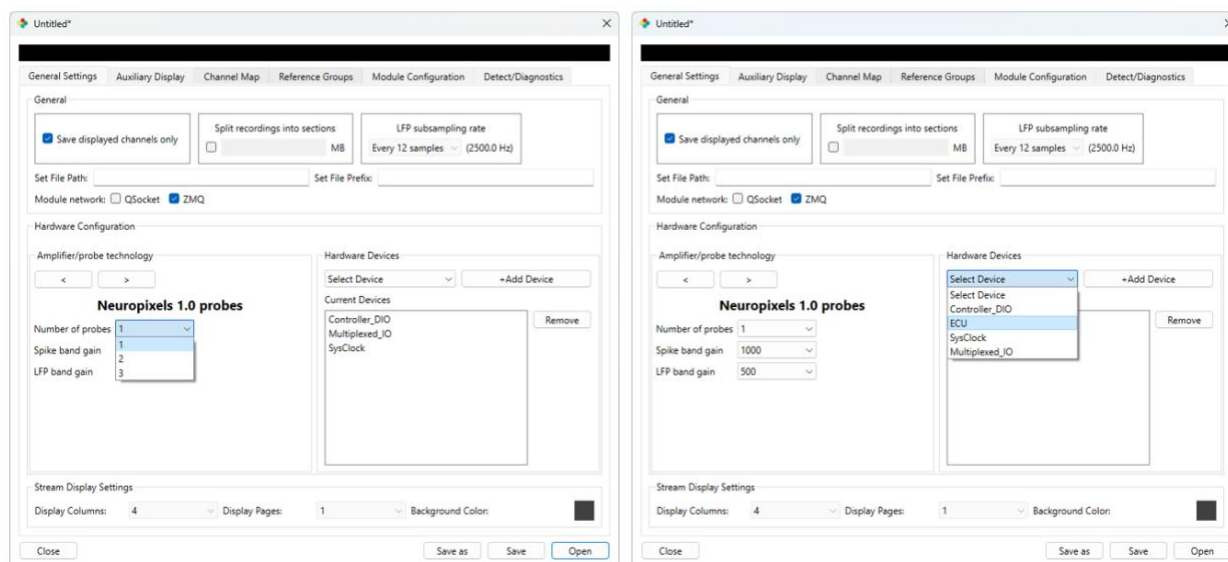

Figure 5 | Workspace probe selection dropdown menu (left), and selecting ECU from the Hardware Devices dropdown menu (Right)
2. From the Workspace editor, under "Hardware Configuration" select "Amplifier/probe technology: Neuropixels 1.0 probes or Neuropixels 2.0 probes" (Fig.5)
4. If an Environmental Control Unit (ECU) is connected to the system, the ECU device should be added under "Hardware Devices." To do this, select "ECU" from the "Select Devices" dropdown menu, then click "+Add Device" (Fig.5).